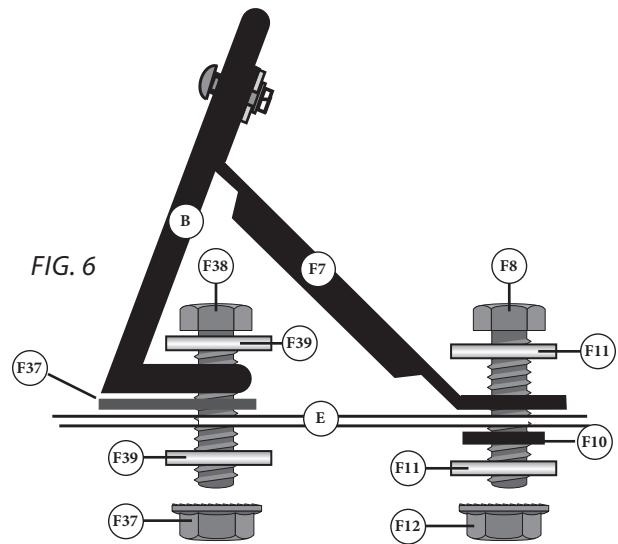

FIG. 6
Secure the Cone Assembly (B) to the Drum Lid (E) with a Hex Bolt (F38), two Flat Washers (F39), and a Whiz-Lock Nut (F37) as shown in FIG. 6.
Secure the Strut (G3) to the Drum Lid (E) with a Hex Bolt (F8), two Flat Washers (F11), a Rubber Washer (F10) and a Whiz-Lock Nut (F12) as shown in FIG. 6.